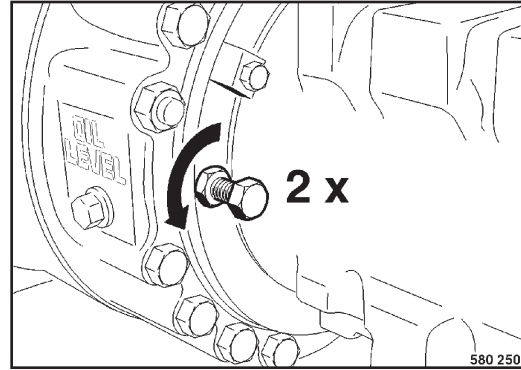

Fig. 74
- Unscrew the brake releasing screws (Fig. 74) for two turns and tighten the counter nuts.